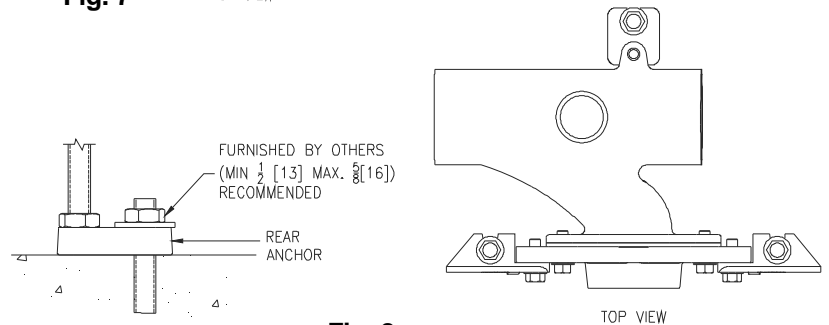

Fig. 8
- Prep the floor for concrete anchors and place the carrier back into position. Lag down the feet using 1/2" anchors (supplied by others). See Fig. 8